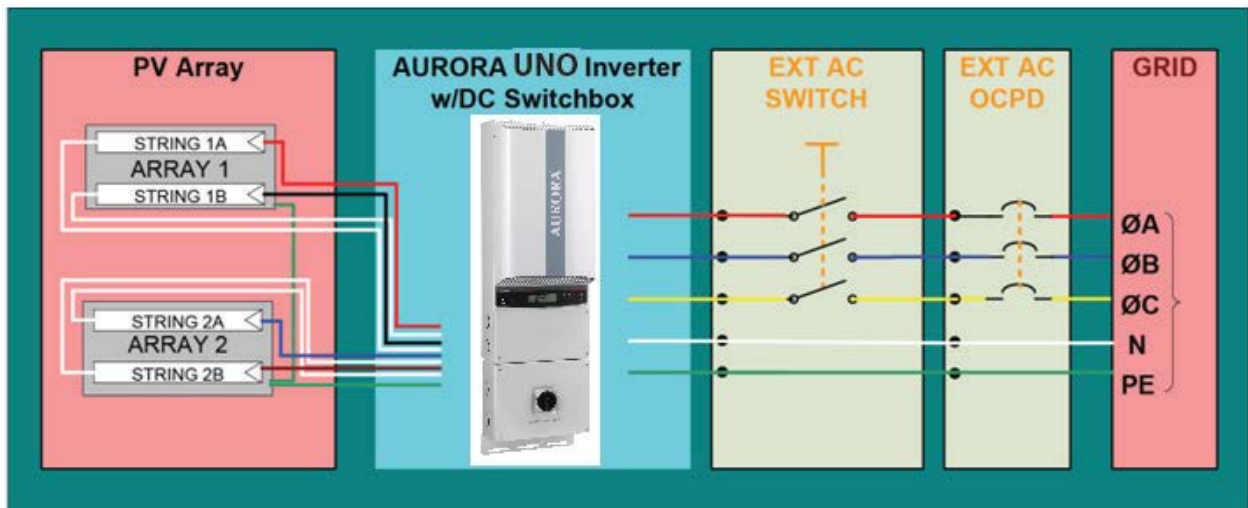

Figure 2:05: Electrical Connection Diagram PVI-5000-6000-OUTD- US
- Relevant wiring connections are shown in Figure 2:03 and Figure 2:04.
1. Refer to the photo of Figure 2:03 and locate the designated entry locations for the conduits from the DC array and to the AC grid.